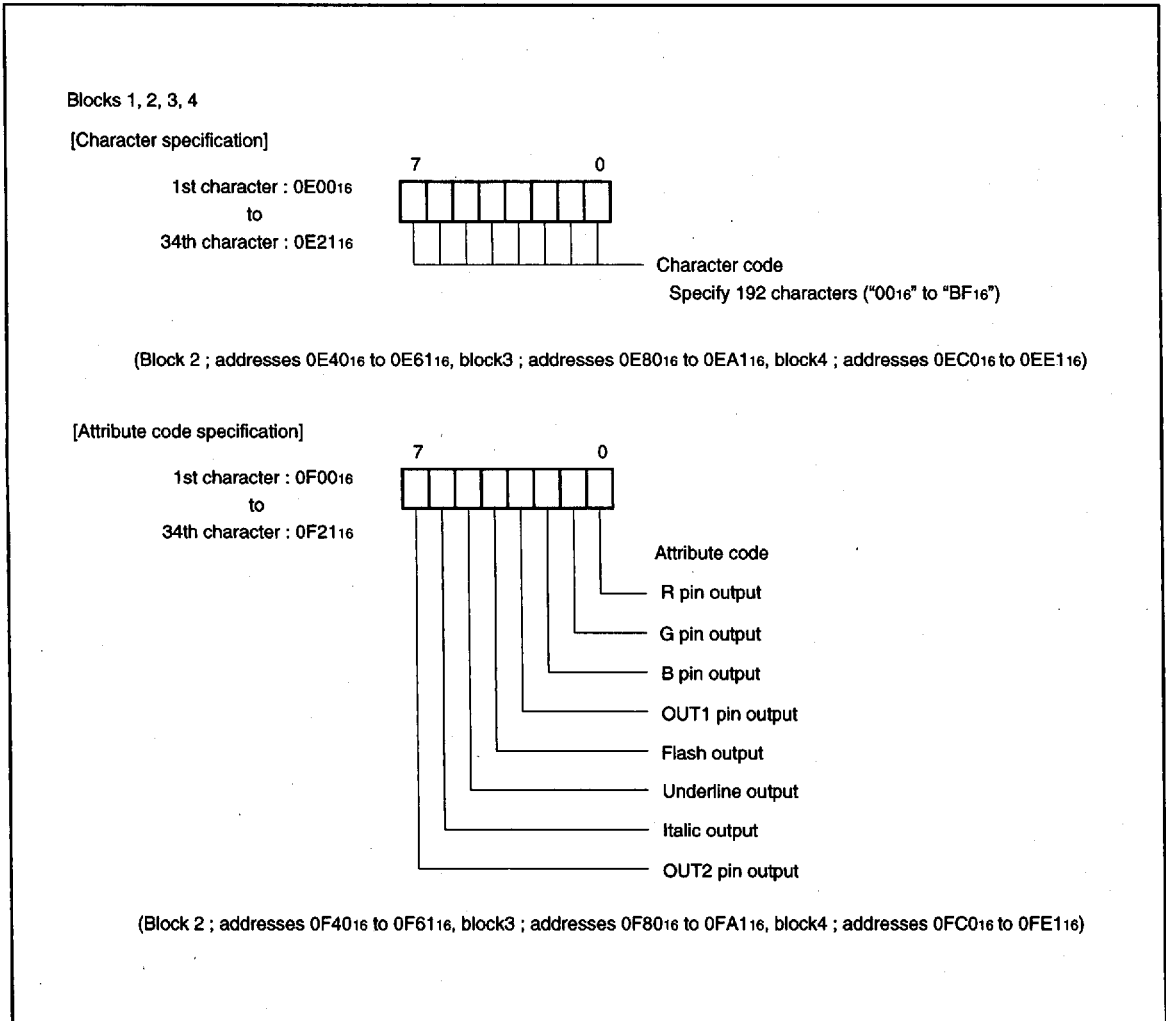

Fig. 58. Structure of CRT display RAM
For example, to display 1 character position (the left edge) in block 1, write the character code in address 0E0016 and write the attribute code to address 0F0016. For details on the attribute code, refer to (7) Attribute code. The structure of the CRT display RAM is shown in Figure 58.